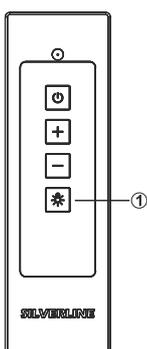

Fig. 25: Switching the light on/off
1. ➔ Press \star (Fig. 25/1) the button.
2. ➔ Press \star (Fig. 25/1) the button once more.